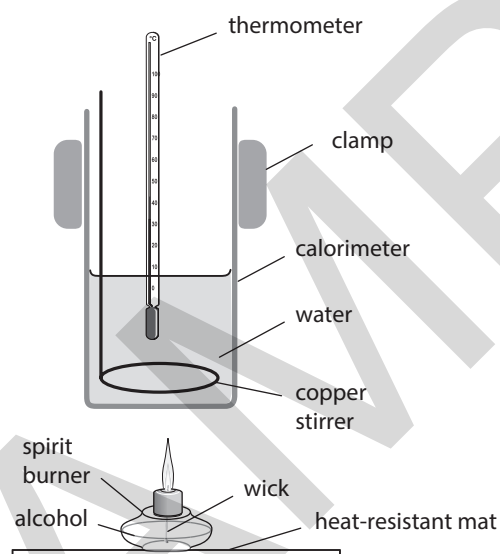

Figure 3.1
- b Clamp the calorimeter so that the flame just touches the base of the calorimeter (see Figure 3.1).
- 5 The experimental set-up should resemble that shown in Figure 3.1.